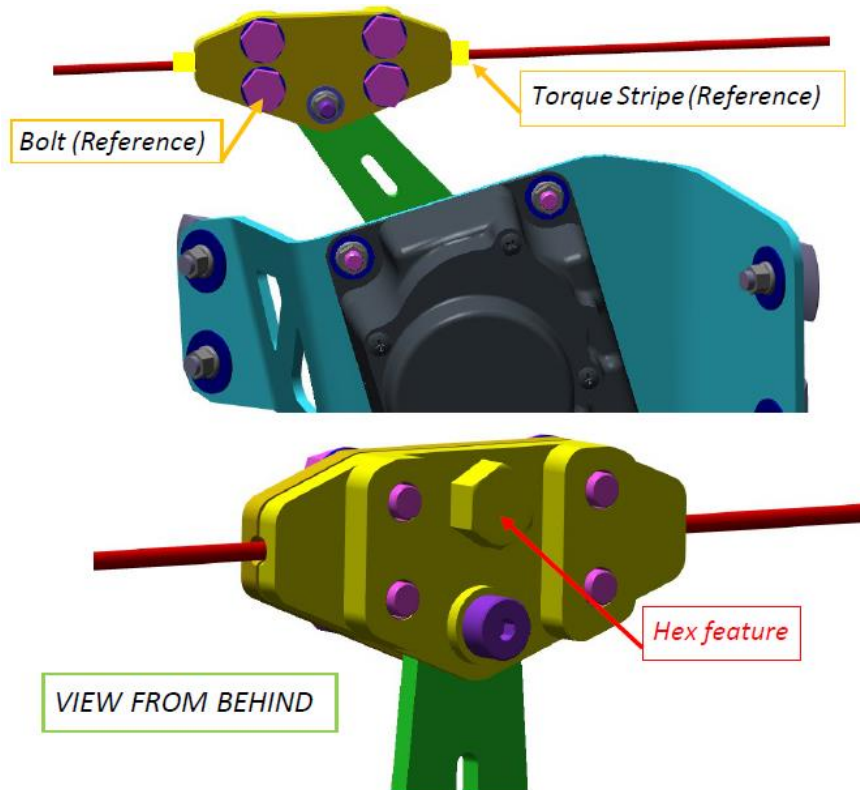

Figure 36 HEX Feature, Roll Servo
- f. Use the hex feature on the backside of the cable clamp to prevent the clamps from rotating while torquing the bolts  $\frac{1}{4}$  to  $\frac{1}{2}$  turn each in a crisscross pattern (1-2-3-4) until torqued to 33-35 in-lb (see Figure 36).